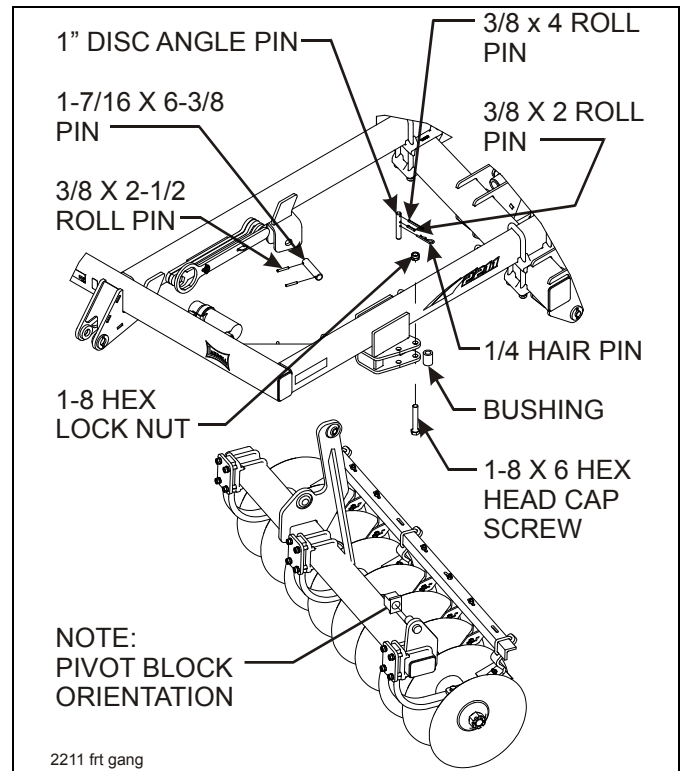

Figure 3-11: Front Disc Gang Installation
- Lift front gangs up under frame and install 1-7/16 x 6-3/8" pin on inner mount with roll pins (**See Figure 3-11.**)